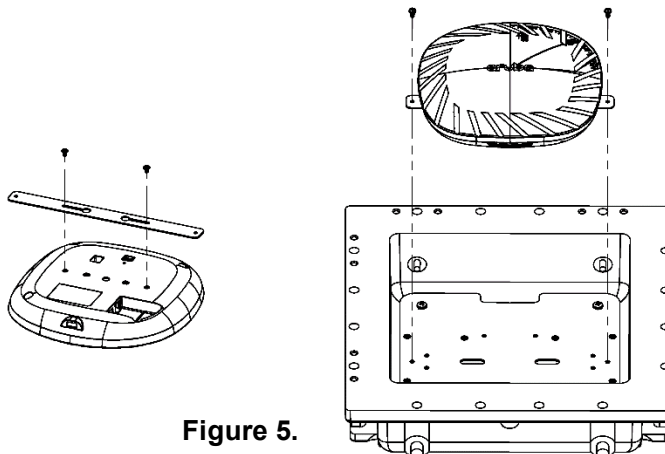

Figure 5.
Aruba AP-5XX Access Points- Using the QTY (2) M4 screws that are included with the Aruba access point, attach the Aruba adapter strip to the back of the access point. Plug in the ethernet cable. Attach the strip to the backplate using the included #8 screws. See Figure 5.